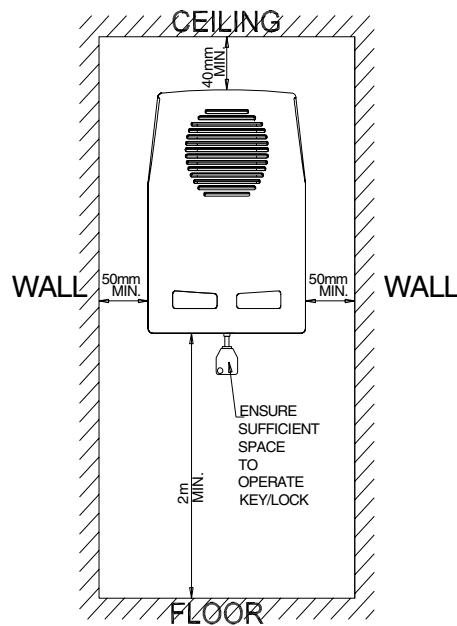

Fig 1
1. Drill and plug the wall using the drilling template supplied. (NB Observe clearances detailed in Fig 1).